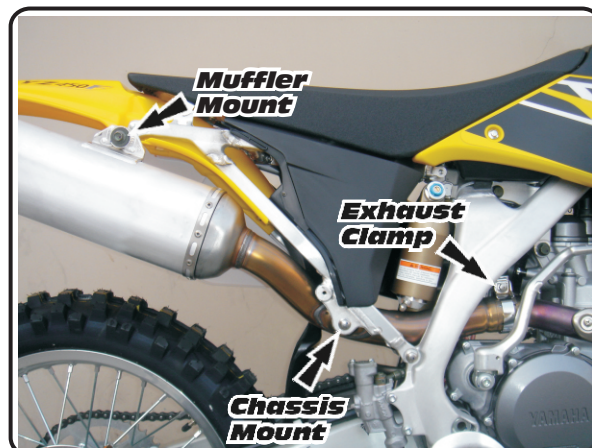
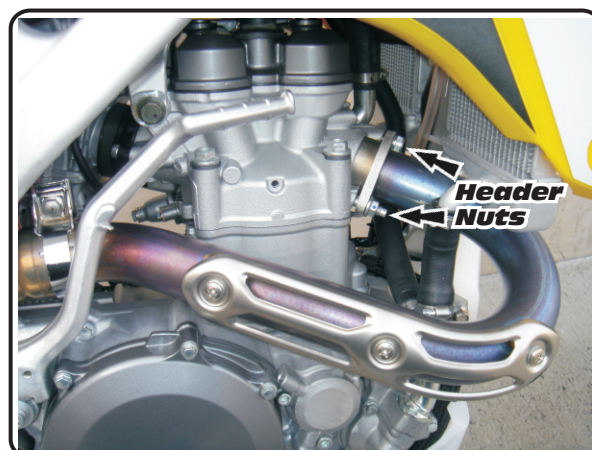

Fig. 2
Fig. 3
2. Remove stock heatshield, stock exhaust system, and stock exhaust port gasket (see Fig. 2 and Fig. 3 for bolt locations).